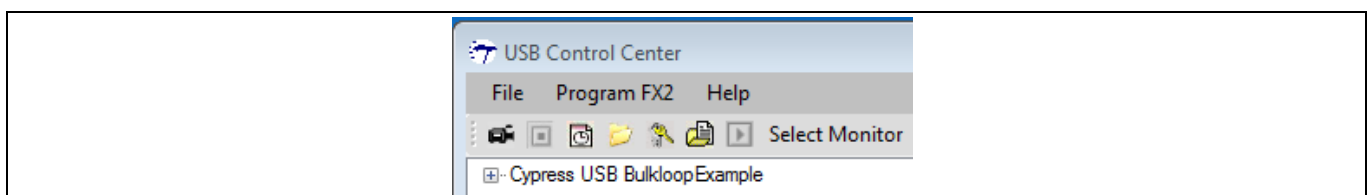

Figure 15 The FX2LP Board Re-appears
- Now you are ready to load the FX2LP firmware **bulkloop.hex** (AN65209\FX2LP Bulkloop Firmware) on to the FX2LP DVK. Click on the Cypress device entry to highlight it, and then select **Program FX2 > RAM**. Open the **FX2LP Bulkloop Firmware** folder and select the **bulkloop.hex** file. After the code loads, the FX2LP Development Kit disconnects itself from USB and reconnects as the device created by the loaded firmware **bulkloop.hex** (**Figure 15**). This is Cypress ReNumeration™ in action—FX2LP has enumerated twice, first as a code loader and then as the loaded device.